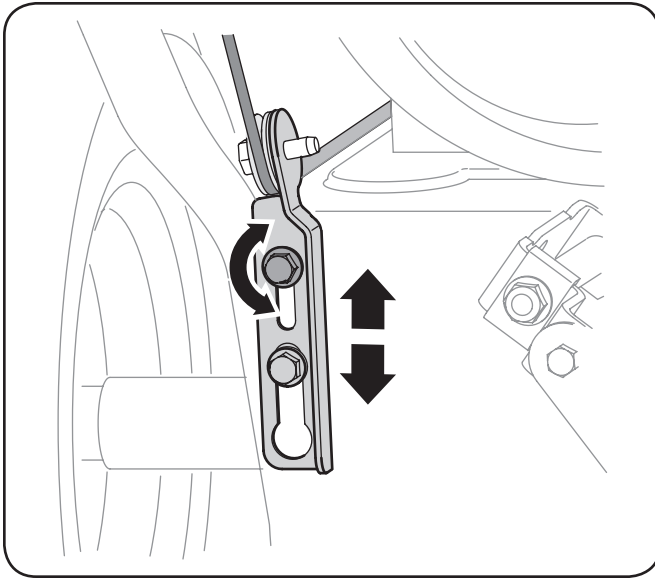

Figure 3-12
4. Allow the auger to remain engaged for approximately ten (10) seconds before releasing the auger control. Repeat this several times.
7. To readjust the control cable, loosen the upper hex screw on the auger cable bracket. See Fig. 3-12.